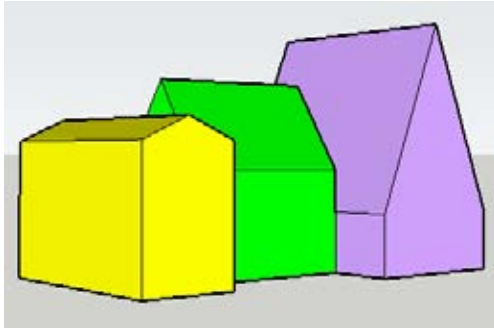

Figure 5-53
1. Download my Roof End Middle model (shown in Figure 5-53) from the 3D Warehouse. The green roof in the middle is perpendicular to the roofs on either side and meets the other roofs in the middle (not at corners).